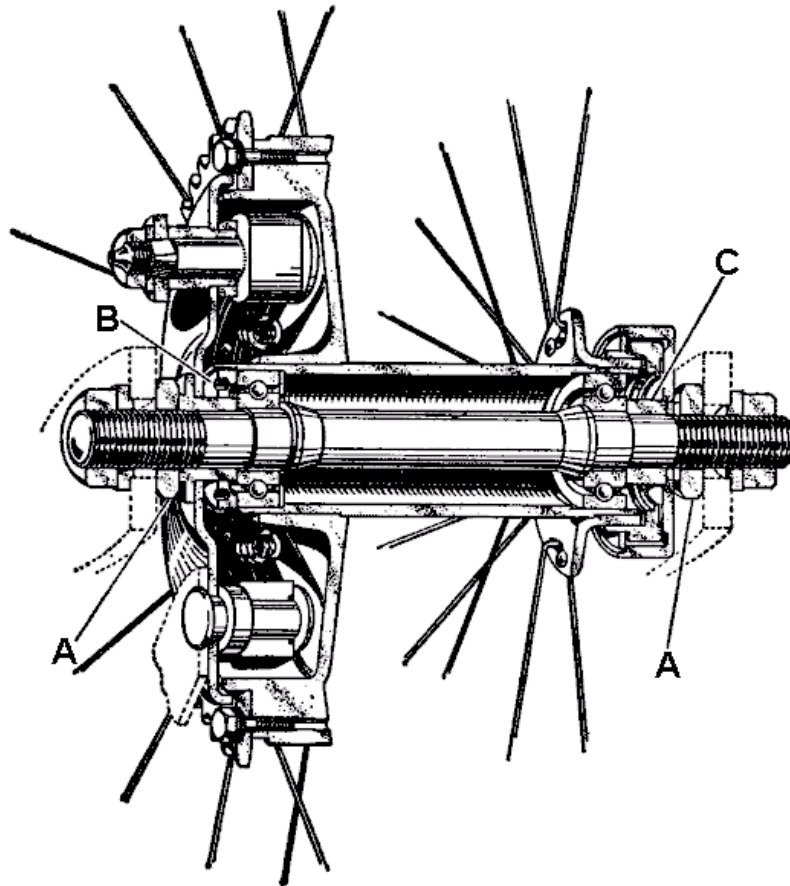

FIG. D32.
Unscrew the large nuts (A) Fig. D32, on the spindle, locking the spindle in the same way as described for the front wheel. Remove the brake cover plate complete with shoes and then the speedometer drive gearbox from the right-hand side. (Note the distance piece and driving dogs.)
After fitting the drive-side bearing and its retainer, insert the spindle from the right-hand side drive in the right-hand bearing to the shoulder on the spindle, slide the distance piece (C) Fig. D32, over the right-hand side of the spindle, then the speedometer gearbox taking care to mesh the driving dogs and screw on the spindle locknut. This nut can be finally tightened after the brake cover plate is fitted.